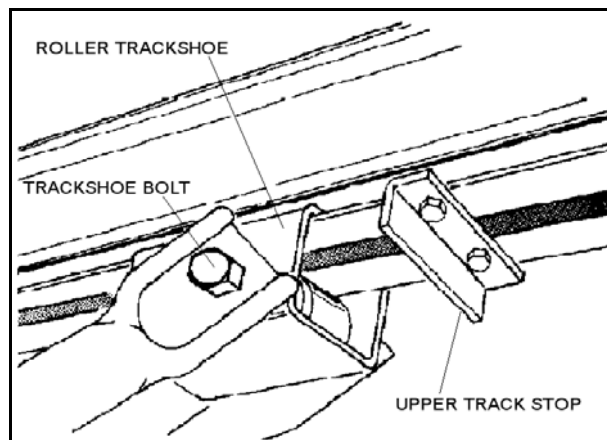

Figure 3.17 Track Shoe Bolt Installation
12. Attach both upper lift arms to roller trackshoe with one 5/8" x 6-1/2" bolt and locknut. **Do not over-tighten.** Tighten snug only; this bolt acts as a pivot point (Figure 3.17).